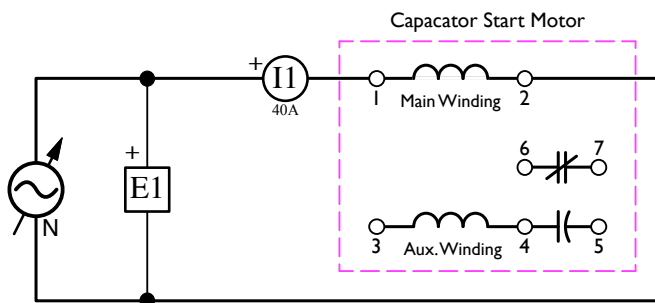

Figure 4.16: Capacitor Start Motor – Main Winding Only
- 35. Construct the capacitor start motor circuit shown in Figure 4.16.